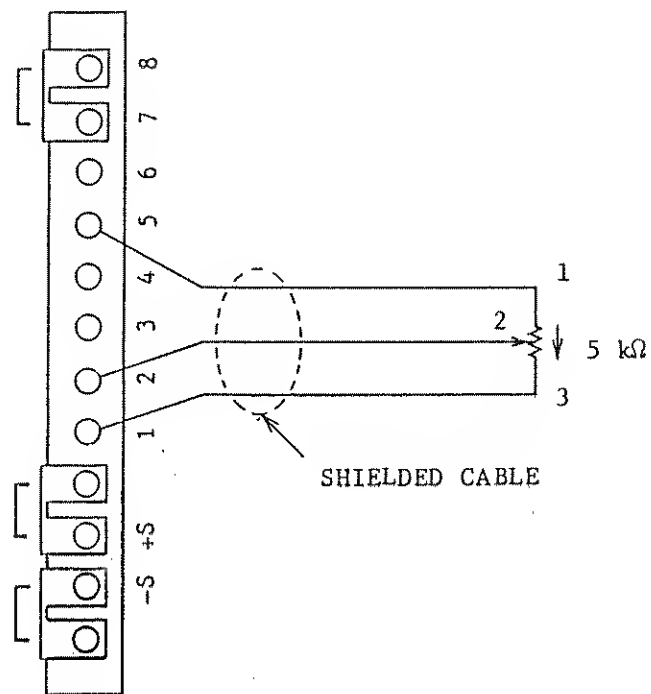

Figure 2.8.4 Rear Panel Terminal Strip Connections
2. Fashion a three lead shielded cable to a variable resistance (5k ohms recommended) and attach it to terminals 1, 2 and 5 of the Rear Panel Strip as shown in Figure 2.8.4.